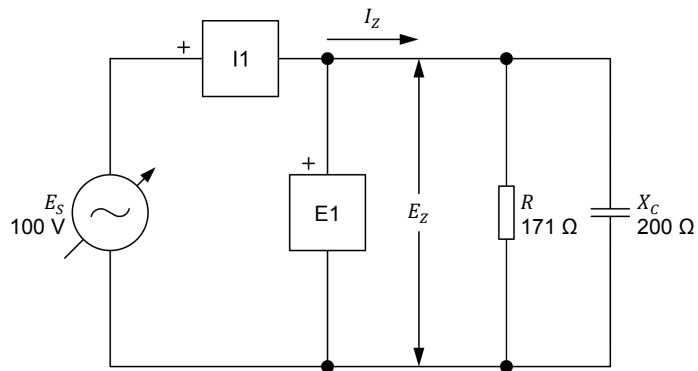

Figure 2-22. Parallel ac circuit containing a resistor and a capacitor.
54. Set up the circuit shown in Figure 2-22.